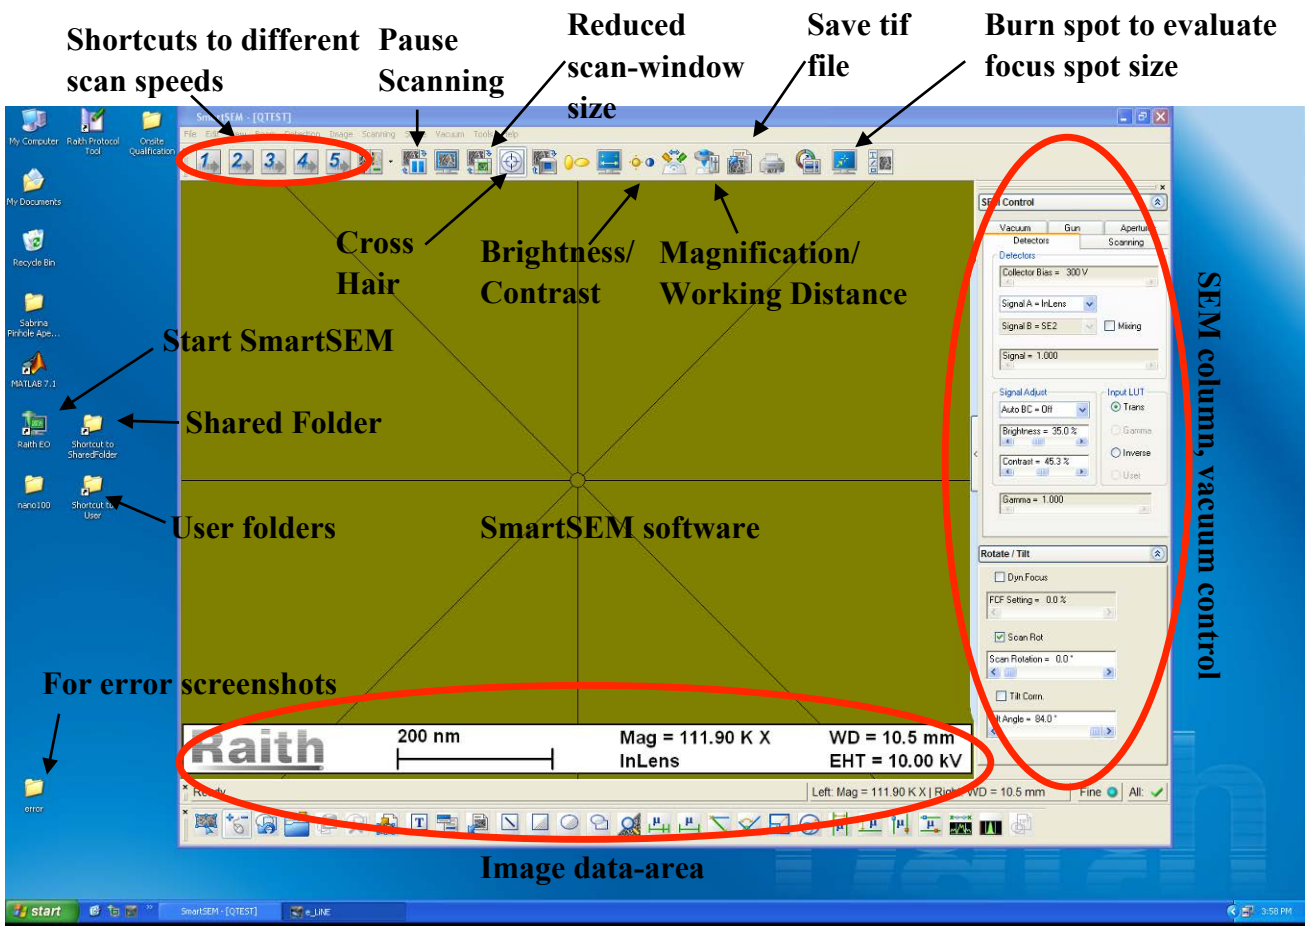
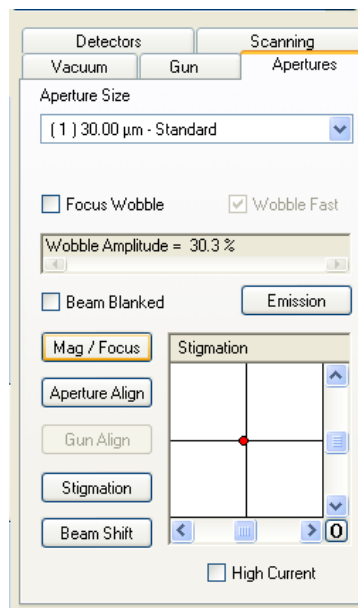
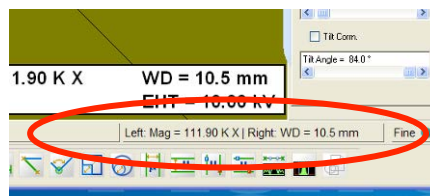

Figure 4: Left-hand screen of e-Line terminal running SmartSEM software.
Figure 14: Apertures tab.
Figure 15: Mouse button configuration.
The SmartSEM software should always be running (It is started with the Raith EO icon on the desktop - see Figure 4). If for some reason somebody logged off, you can log on with the username 'qtest'. No password is set.
The most important functions of the SmartSEM software are marked in Figure 4.
11. Zoom out all the way in the SmartSEM software. For example by clicking on Mag/Focus in the Apertures tab (see Figure 14), then holding the left mouse button clicked inside the SEM image and moving the mouse to reduce the magnification. The current functions of the mouse buttons are always shown underneath the imaging area (see Figure 15).
12. Set the working distance to 10 mm by double-clicking on WD (see Figure 15) and entering 10 into the dialogue box. You should be able to see the scratched surface of the sample holder.
15. Choose the aperture you want to use (30 μm is standard) using the drop-down box in Figure 14. You may want to choose a different aperture size to increase or decrease the beam current for your exposure.
16. Next this aperture needs to be aligned (Especially when you have changed between apertures). Click on the check box focus wobble shown in Figure 14. Move the reduced scan area so that it is centered on for example a single polystyrene bead. Then click on 'Aperture Align' button shown in Figure 14. The position of the aperture can now be controlled using the scroll bars shown in Figure 14. The aim is to minimize the left-right and up-down movement of the image during focus wobble. The horizontal scroll bar adjusts up-down movement and the vertical one adjusts left-right movement. Once the movement of the image is neutral de-select the focus-wobble checkbox.
17. Adjust X and Y stigmation of the focus. The focus has not necessarily a circular shape. This shape can be adjusted using the stigmation controls. First reduce the scanning area (see Figure 4) and center it on a polystyrene bead and use scan-speed-setting '4' to get a low-noise image that is refreshed quickly. Click on the stigmation button shown in Figure 14. Hold the left mouse button inside the imaging area and use alternate up-down and left-right movements of the mouse to find the optimal focus. It is best to always go from complete-defocus via good-focus to complete-defocus to really find the global optimal stigmation. If the stigmation or aperture alignment is far off you may not get a good image at 50 k magnification. In that case you will have to do steps 16 and 17 first at a lower magnification.